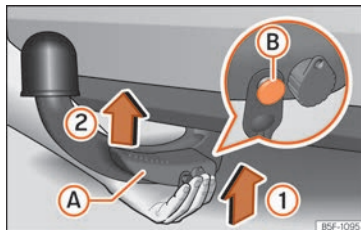

Fig. 255 Fitting the detachable ball / Release bolt in the deployed position.
- Grip the detachable ball **from below** » Fig. 255 and insert it into the hook housing